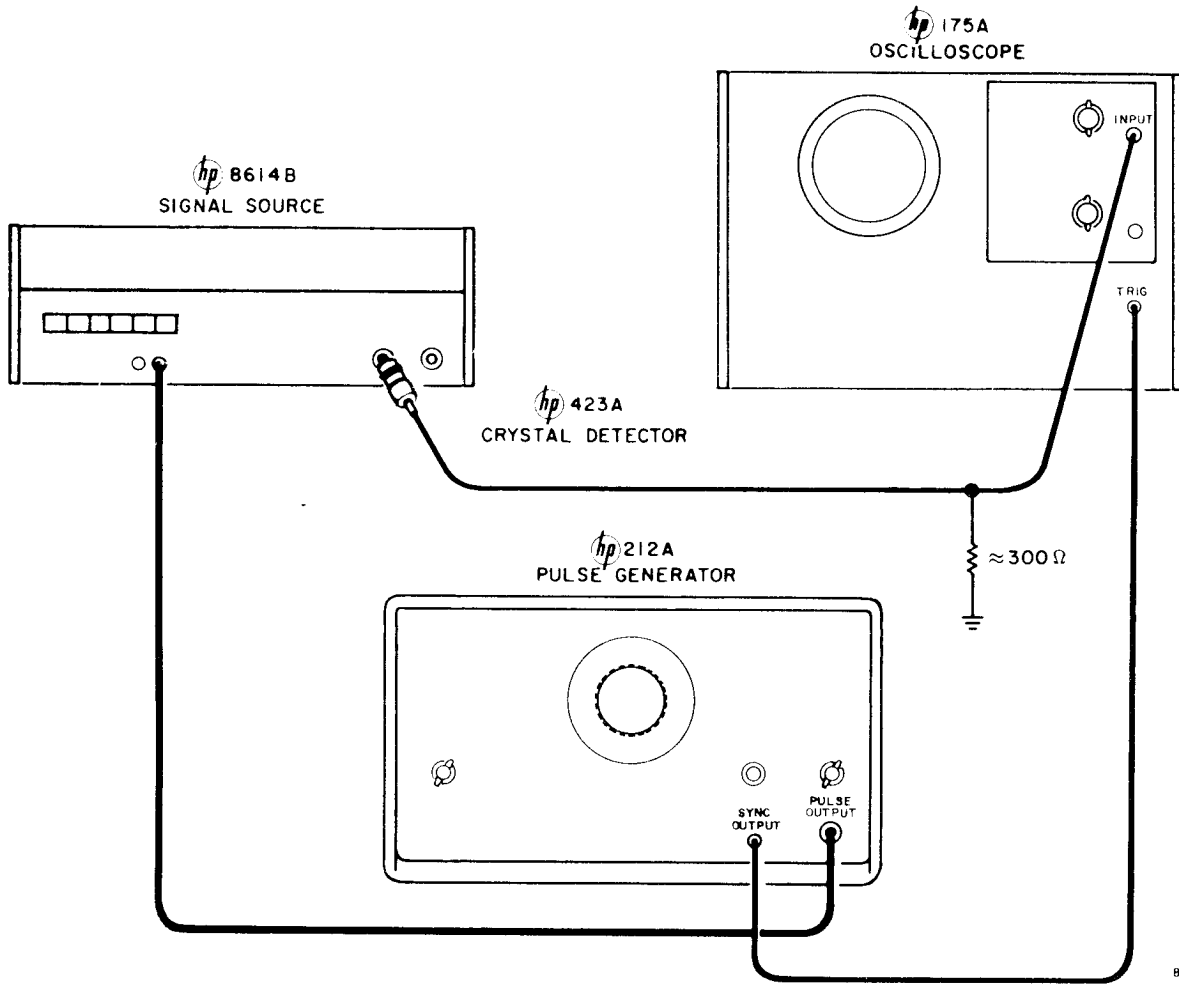

Figure 5-11. Pulse Modulation Adjust
- a. Connect instruments as shown in Figure 5-11.
e. To check external synchronization, connect equipment as shown in Figure 5-11.